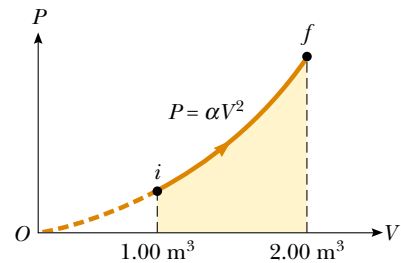

Figure P20.21
- A sample of ideal gas is expanded to twice its original volume of 1.00 m^3 in a quasi-static process for which $P = \alpha V^2$, with $\alpha = 5.00 \text{ atm}/\text{m}^6$, as shown in Figure P20.21. How much work is done by the expanding gas?